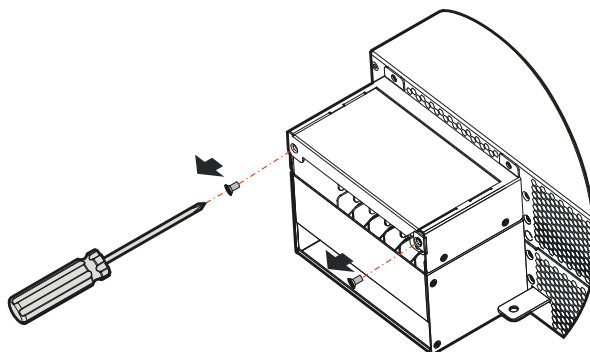

Figure3-24 Remove the screws from the protective cover
Step 1 Remove the flat-head screws from the protective cover before wiring, as shown in Figure 3-24.